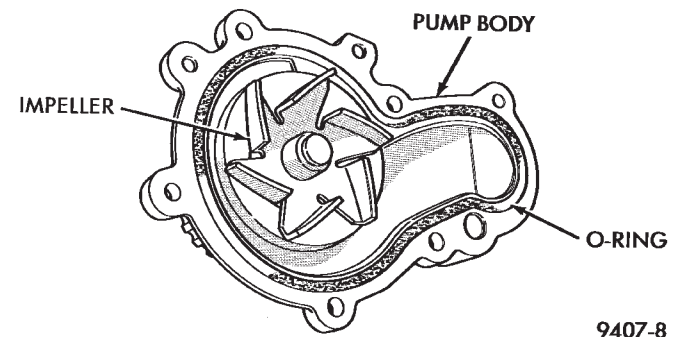

Fig. 23 Water Pump Body
(1) Install new O-ring gasket in water pump body O-ring groove (Fig. 23).